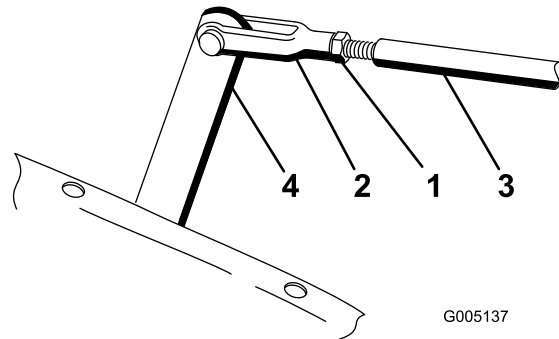

Figure 44
3. Move the adjustment lever by hand to level the mow and lift pedals and adjust the yoke on the control rod until the hole in the yoke lines up with the adjustment lever hole (Figure 44).